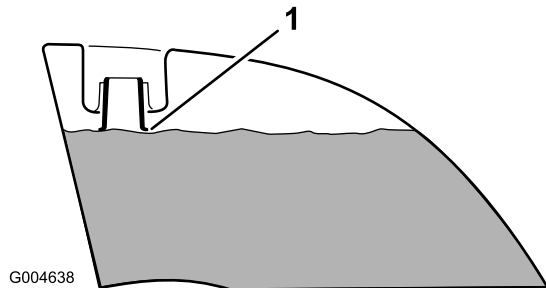

Figure 39
4. Add fuel to both fuel tanks, until the level is even with the bottom of the filler neck (Figure 39). Do not over fill the fuel tanks.